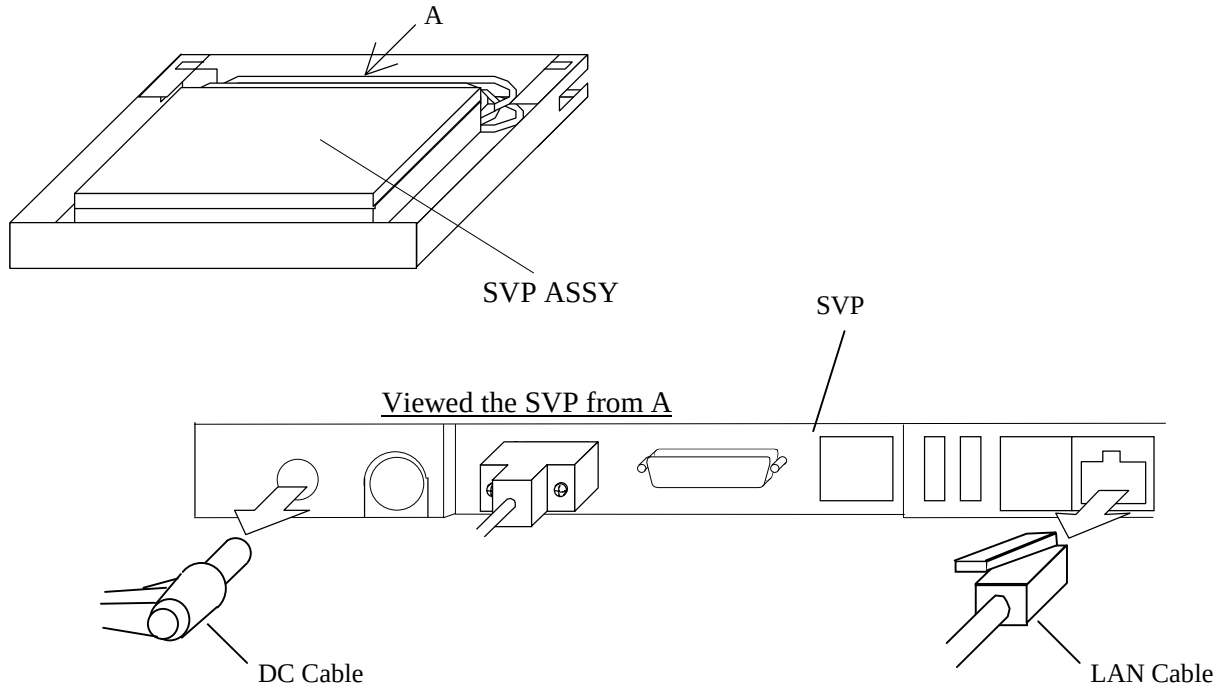

Fig. 4.12-13 Removing and installing Cables
- c. Connect the LAN cable and DC cable to the SVP. (See Fig. 4.12-13.)